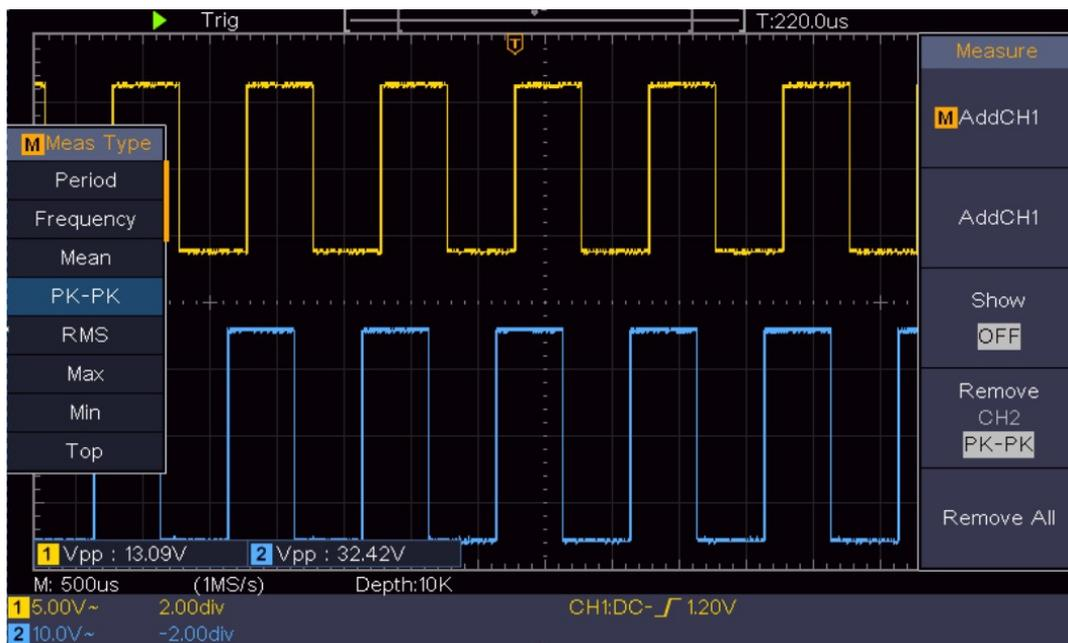

Figure 6-2 Waveform of Gain Measurement
- (1) Push the Autoset button and the oscilloscope will automatically adjust the waveforms of the two channels into the proper display state.
- (2) Push the Measure button to show the right menu.
- (3) Select AddCH1 in the right menu.
- (4) In the left Type menu, turn the M knob to select PK-PK.
- (5) In the right menu, select AddCH1. The peak-to-peak type of CH1 is added.
- (6) In the right menu, select AddCH2. The peak-to-peak type of CH2 is added.
- (7) Read the peak-to-peak voltages of Channel 1 and Channel 2 from the bottom left of the screen (see Figure 6-2).
- (8) Calculate the amplifier gain with the following formulas.